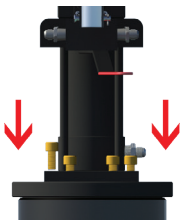

Figure 16
5. Attach the ram to the stop housing using the eight (8) 1/2" socket head cap screws (see Figure 16).